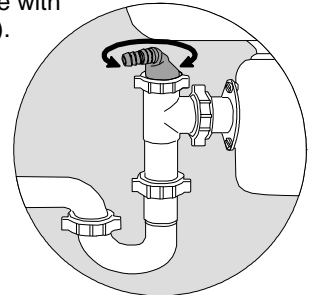

FIG. 4
7. Rotate barb connector towards incoming reject water drain tubing and secure tightly with the wing nut. (See Fig. 4)